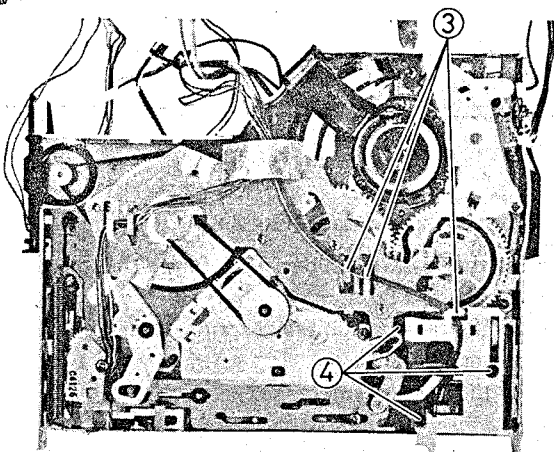
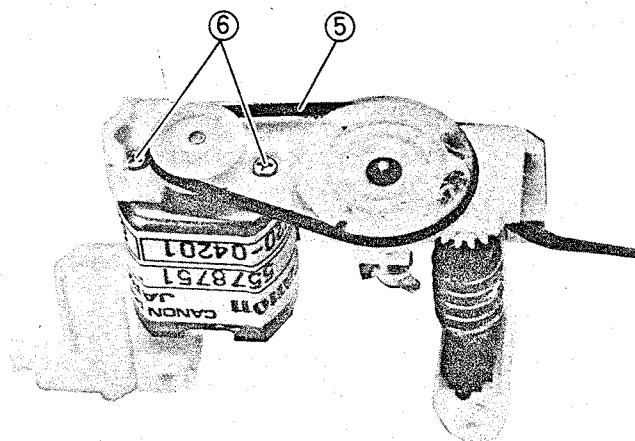

Fig. 2-89 Loading Motor Removal
Fig. 2-90 Loading Motor Removal
3. Remove the wires from the wire holders. (See Fig. 2-89)
4. Remove three (3) screws holding the loading motor block.
5. Remove the belt of the loading motor. (See Fig. 2-90)
6. Remove two (2) screws holding the loading motor.